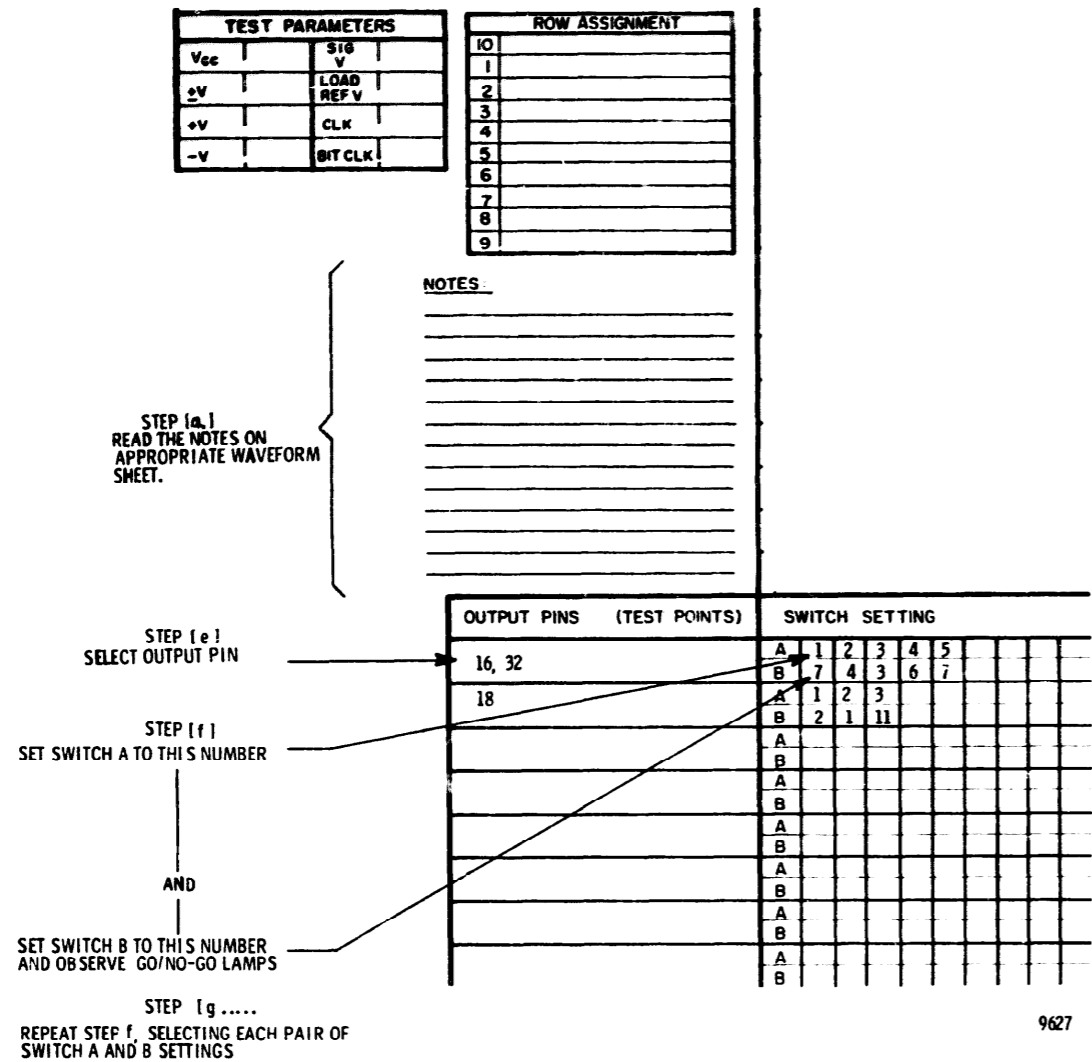

Figure 2. Model ICT-102 Waveform Sheet Example
e. Select the output pin to be tested on the front panel IN/OUT SELECTOR switches (S2 and S3). Figure 2 shows a typical example of an output pin (pin 16) and its location on the waveform chart.
f. Set WAVEFORM TEST switch A to the first number shown under the SWITCH SETTING heading which corresponds to the selected output pin on the waveform chart. As shown in figure 2, the number 1 would be selected by switch A.